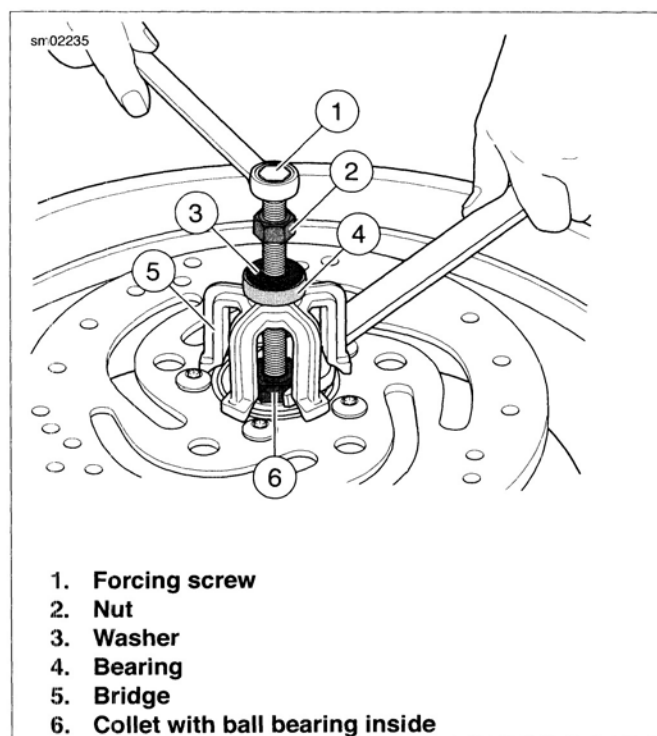

Figure 2-12. Removal Tool
3. See Figure 2-12. Obtain WHEEL BEARING INSTALLER/REMOVER (Part No. HD-44060A) and